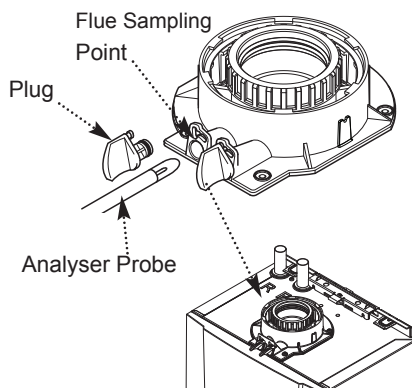

Fig. 54
3. Remove the plug from the flue sampling point (Fig. 54) and insert the probe of the flue gas analyser.